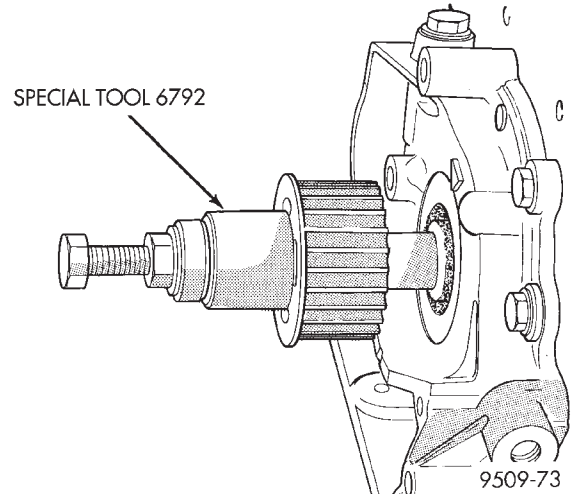

Fig. 69 Crankshaft Sprocket—Installation
- (3) Install crankshaft sprocket (Fig. 69). Using Special Tool 6792.